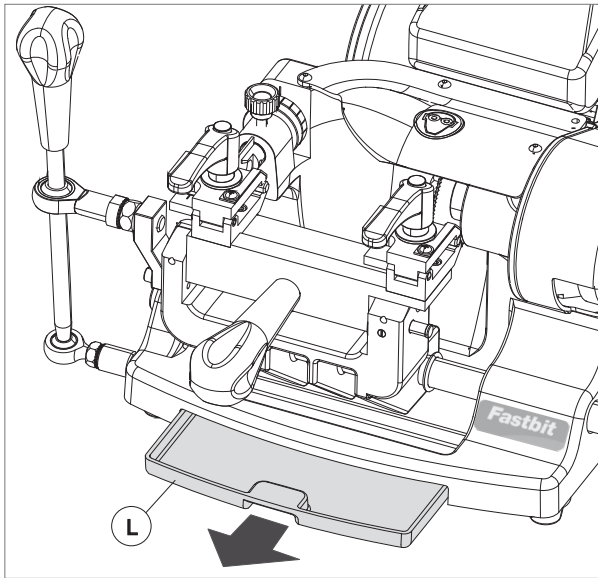

Fig. 39
- 2) Remove the swarf tray (L) (Fig. 39).